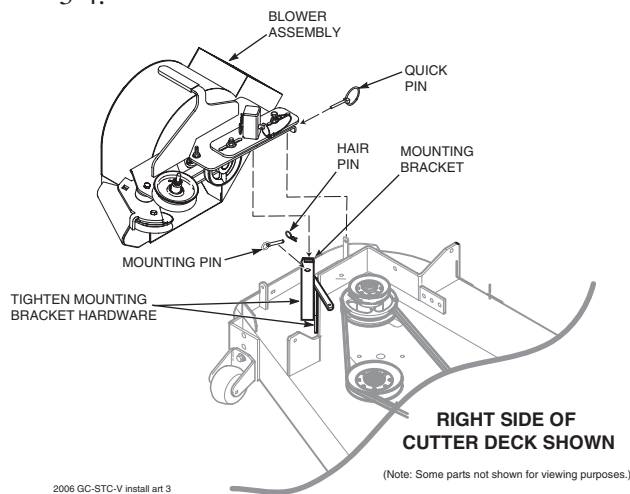

FIGURE 3-4
7. Install the blower assembly to the mounting bracket and secure with the mounting pin. See Figure 3-4.
8. Align the blower assembly with the discharge opening of the cutter deck. Tighten the hardware for the mounting bracket. See Figure 3-4.
9. Install the quick pin through the rear hole in the discharge chute mounting bracket. See Figure 3-4.